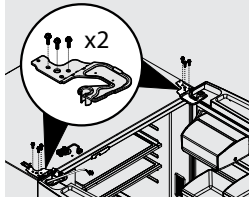

Figure 4
4. Remove three 8 mm bolts from both top hinges. See Figure 4. Lift doors up off lower hinges and carefully set aside.